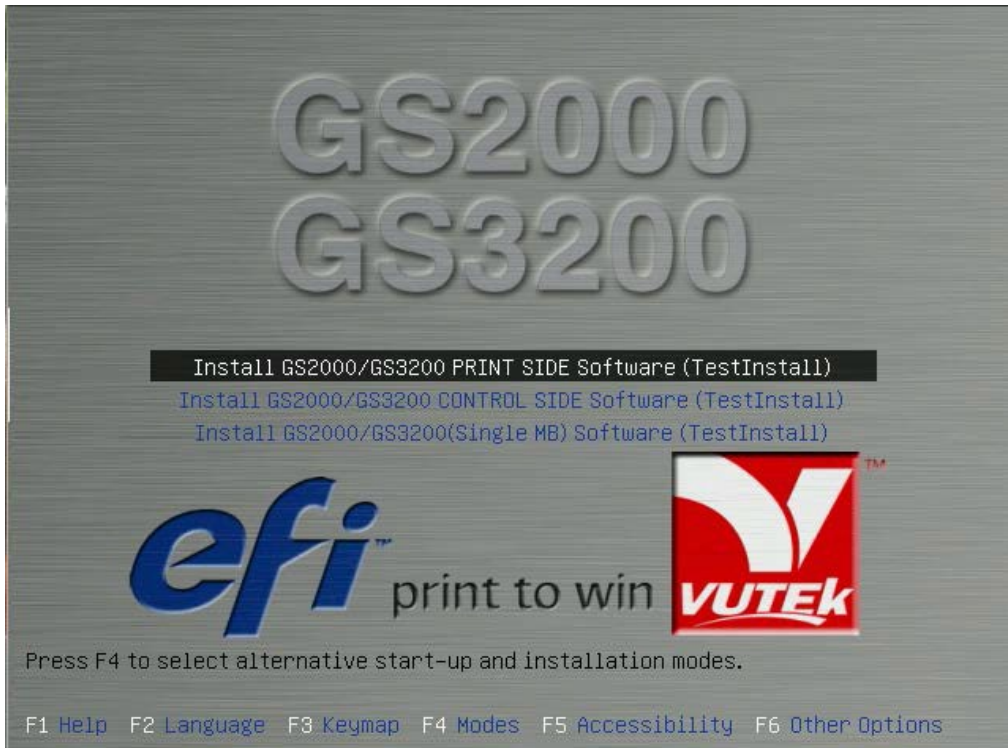

Figure 68: Installer boot screen menu
7. After language menu is cleared, installer boot menu, shown in **Figure 68** will be visible. Navigate to **Install GS2000/3200 PRINT Software** and press **Enter**.